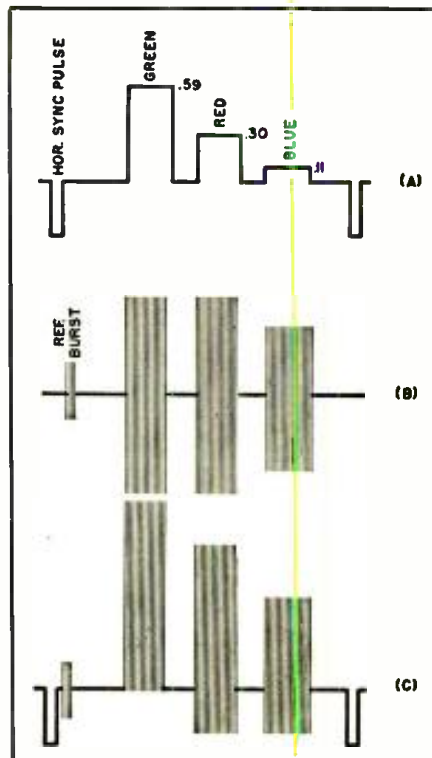

Fig. 6. Video signal for three vertical colored bars. See text for details.
Fig. 6 indicates the various signals that would be produced if the original subject matter were three vertical bars of saturated colors green, red, and blue. Fig. 6A is simply E_Y and represents equation (1). Fig. 6B is the combined output of the two modulators with the phase varying from bar to bar. Fig. 6C is the composite video output and is the arithmetic sum of (A) and (B). Note that we have introduced a new parameter called the "Reference Burst." In order that the phase of the 3.58 mc. information contained in each bar has a proper reference, eight cycles of the subcarrier are transmitted along with the signal. This burst of subcarrier is placed just behind the horizontal sync pulse and has a reference phase as shown in Fig. 1.